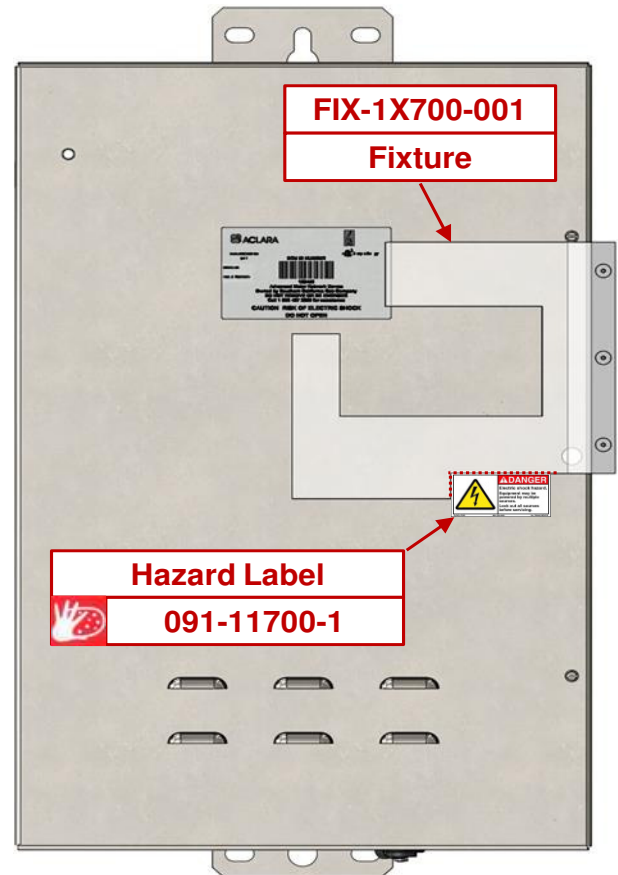

Figure 8: Install Hazard Label
4.3.2 Refer to **Figure 8** for installation of the Hazard label.